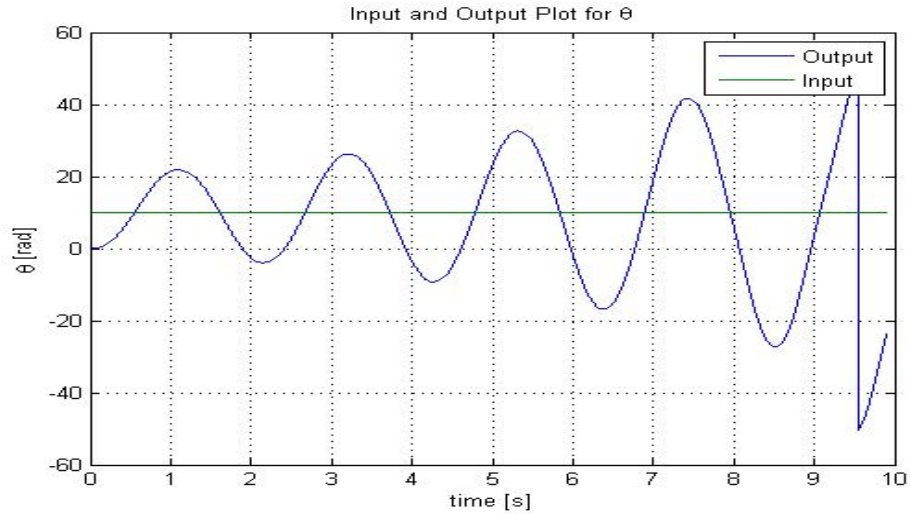

Figure 3.2: Input of 10 rads,  $K = 0$ ,  $I = 1$ ,  $D = 0$
4. Using only integral control puts a pole in the right half of the complex plane, making it no longer BIBO stable. Therefore, the system can never be controlled by only integral control. Figure 3.2 demonstrates this property.